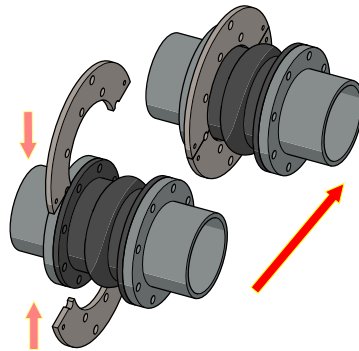

Figure 14: Position ITR Plates
Step 3: Position the Integral Tie Rod (ITR) plates on the expansion joint assembly as shown in Figure 14.